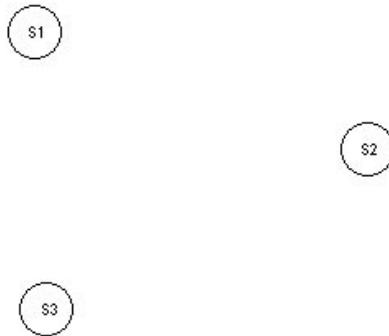

Figure 2-22. Entering Machine State Symbols.
Activate  the **State** toolbar and click left mouse button in three (3) different places on the state machine diagram, as shown in figure below (Figure2-22). Note that the machine states are numbered automatically from S1 through S3.
To change a name of a machine states (e.g. S3 in Figure 2-22), click on it. A set of editing markers will appear around the selected state symbol. Clicking inside the symbol S3 will create a white editing area. Delete the S3 name with the help of the **BkSp** or **DELETE** keyboard keys and enter `COOL_ST` as the new machine state name.